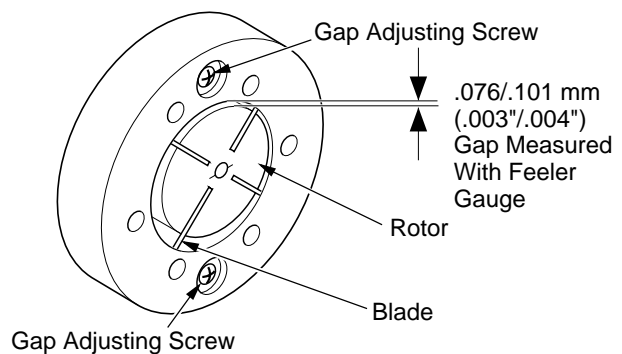

Figure 27 - Gap Adjusting Screw Locations
9. Check gap on rotor. Adjust to .076/.101 mm (.003"/.004") if needed (see Figure 27).